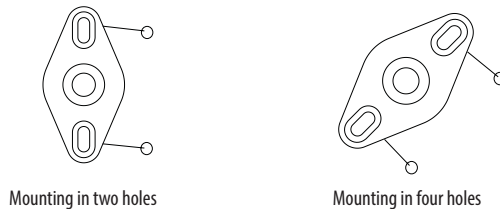

Figure 5
1. First, find the best place to mount your speaker. The pattern for mounting the loudspeaker into the four holes can be adjusted by placing the mounting plate diagonally (see Figure 5).